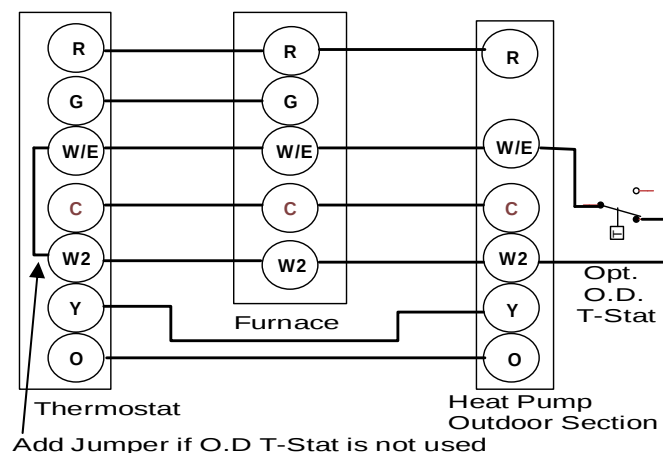

Figure 24: Typical Heat Pump / Heating / Cooling Connections
13. If a two stage outdoor unit is used then connect the "W2" wire from the outdoor unit to the black wires discussed in step 12 and secure with a wire nut. Refer to Figure 24.